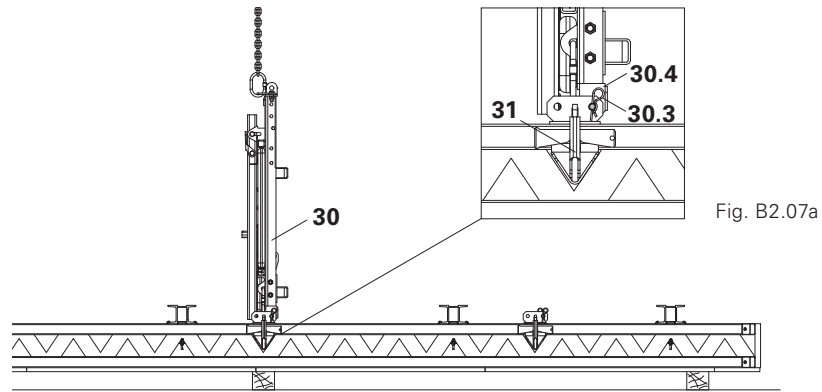

Fig. B2.07
1. Attach platform (30) to lifting gear and transport to assembly level.
3. Insert splice (30.4) into the platform connector (31) and secure in the lowest drilled hole using pins (30.3). (Fig. B2.07 + B2.07a)